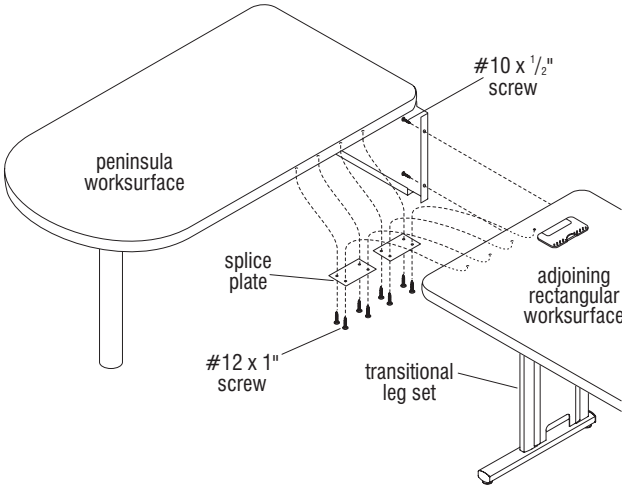

Figure 2
- 5. Secure two splice plates to the mounting holes at the underside of the adjoining rectangular worksurface. Use four #12 x 1" screws, two per splice plate (Figure 2).
- 6. Carefully turn the peninsula worksurface right side up. Set the peninsula worksurface into position on the splice plates. Align the mounting holes and secure the peninsula to the worksurface from underneath with four #12 x 1" screws, two per splice plate (Figure 2).
- 7. Attach the modesty panel of the peninsula worksurface to the transitional leg with two #10 x 1/2" screws (Figure 2).